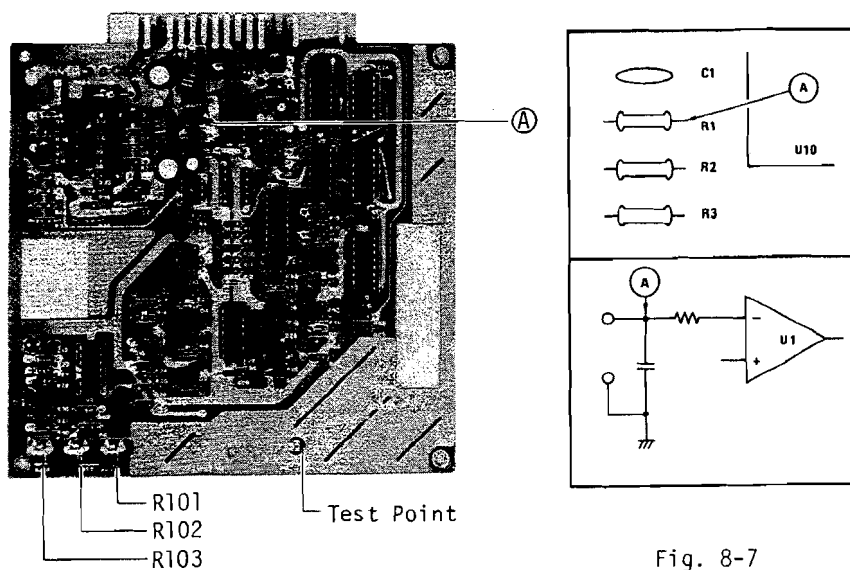

Fig. 8-7
At this point, check the output waveform with an oscilloscope at point (A), Fig. 8-7 of the capstan servo amp. PCB to see that the output is not being clipped. If it is clipping, the clearance between the FG coil and the servo gear is slightly enlarged.
The capstan motor must be run without any load and the trimmer pot R101 set at mid-point of its full rotation, and R103 fully CCW. Then R102 is adjusted to obtain a square wave of 50 % duty on the oscilloscope screen at the test point of this PCB, as shown in Figs. 8-7, 8-11.